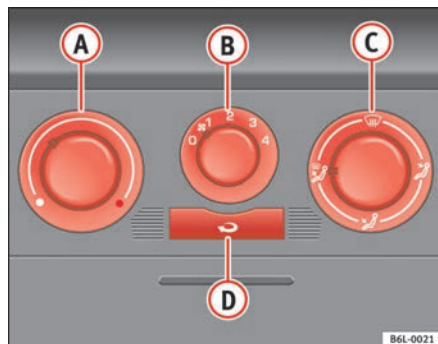

Fig. 88 On the dash panel: Heater controls
- Turn the temperature selector ⇒ fig. 88 ① anti-clockwise.
- Turn blower switch ⑦ to speed settings 1 -4.
- Set the airflow to the desired direction using air distribution control ③.
- Turn the temperature selector ⇒ fig. 88 ① clockwise to select the required temperature.
- Turn the temperature selector ⇒ fig. 88 ① clockwise to the maximum temperature.
- Turn the blower switch ⑦ to setting 4.
- Set air distribution to ④.
- Close outlet ③.
- Open and turn outlet ④ towards side windows
- Turn the temperature selector ⇒ fig. 88 ① to the heating zone.
- Turn blower switch ⑦ to speed settings 2-3.
- Close outlets 3 (3).
- Open and turn outlets 4 (4) towards side windows